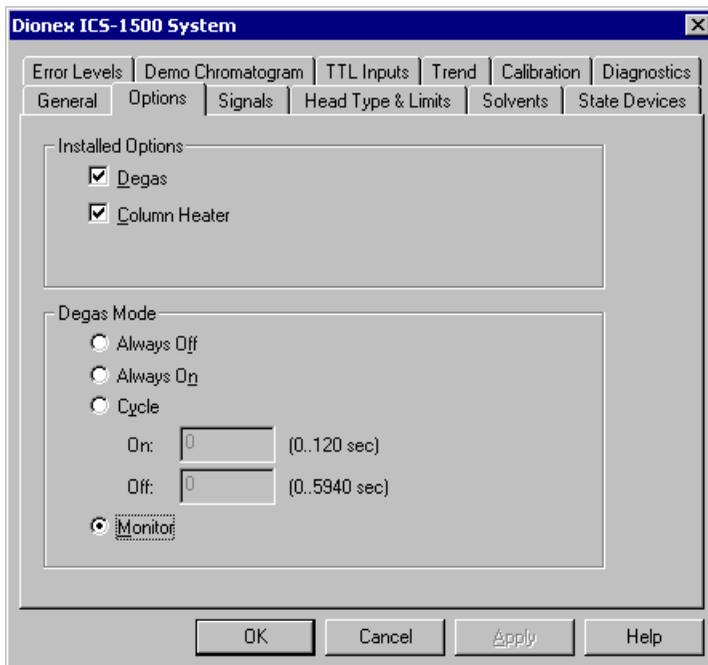

Figure 4-1. ICS-1500 Server Configuration Properties: Options
2. Select the **Options** tab (see Figure 4-1).